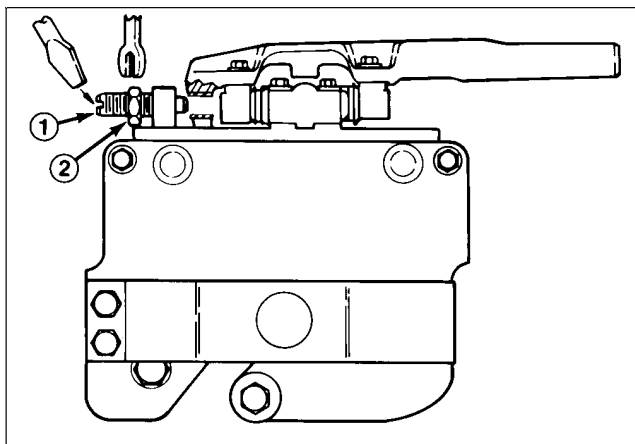
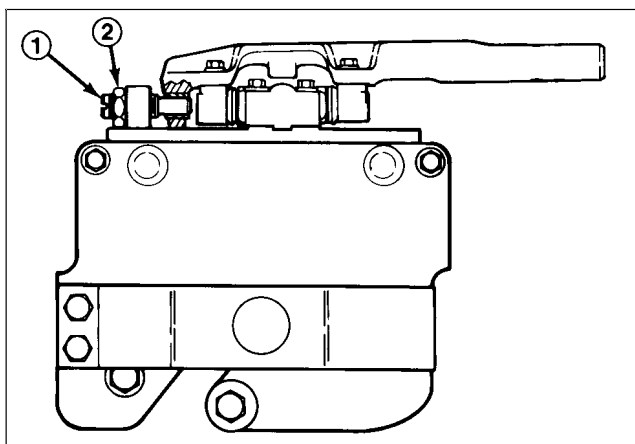

Figure 6
Figure 7
B. Start engine and lower the cutting units onto a flat surface such as a piece of 3/4" or 1 " plywood (at least 20" x 30" in size). Stop engine and remove key from switch. Lock cutting units in the fixed position, by loosening the jam nut on lockout pin (Fig. 6) and screwing pin into hole in pivot arm (Fig. 7). Tighten nut to secure lockout. Raise the front rollers up so they do not contact the flat surface.
J. Loosen lockout pin so cutting unit can float freely (Fig. 6).